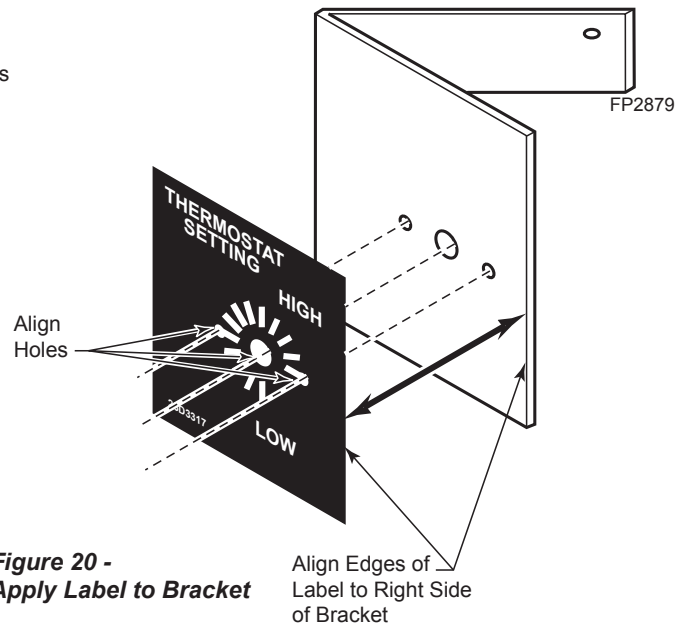

Figure 20 - Apply Label to Bracket
2. Peel away the paper backing on the label. Align holes in label with holes on the bracket. Right side of label should flush with right side of bracket. Figure 20. Press label firmly and smoothly to bracket.